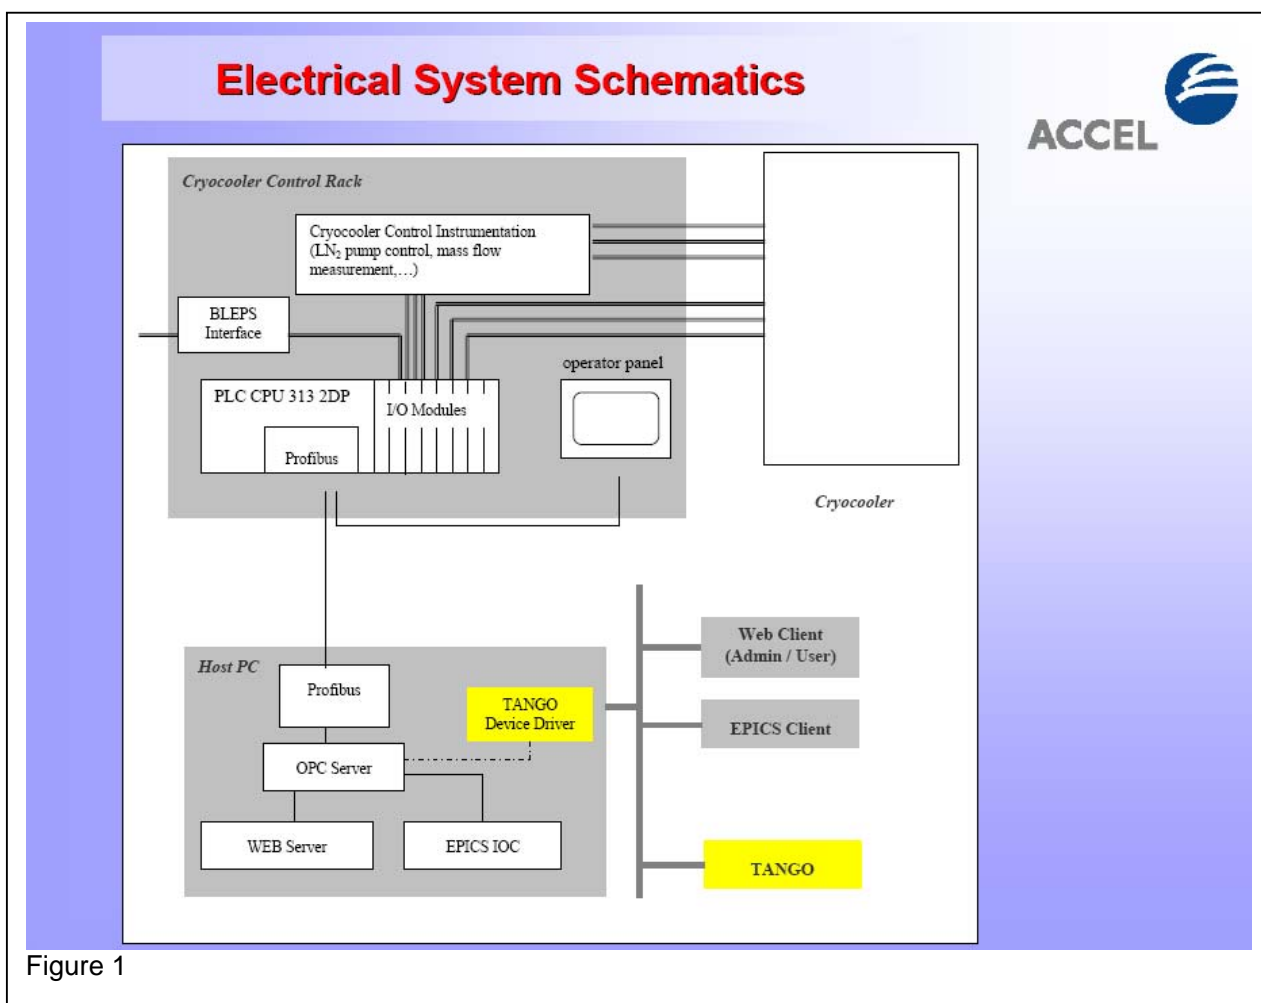

Figure 1
- The data transfer possibilities of the original data exchange to TANGO were introduced. (see figure 1 at the end of this document)